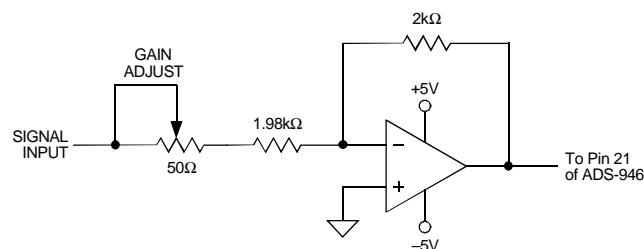

Figure 2. Optional ADS-946 Gain Adjust Calibration Circuit
- The ADS-946 achieves its specified accuracies without the need for external calibration. If required, the device's small initial offset and gain errors can be reduced to zero using the adjustment circuitry shown in Figures 2 and 3. When using this circuitry, or any similar offset and gain calibration hardware, make adjustments following warmup. To avoid interaction, always adjust offset before gain.
Any offset and/or gain calibration procedures should not be implemented until devices are fully warmed up. To avoid interaction, offset must be adjusted before gain. The ranges of adjustment for the circuits in Figures 2 and 3 are guaranteed to compensate for the ADS-946's initial accuracy errors and may not be able to compensate for additional system errors.